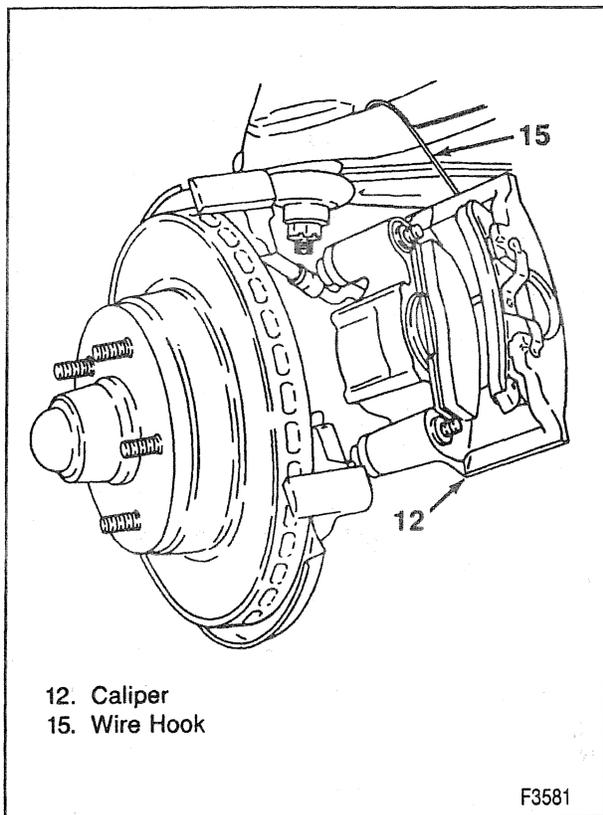

Figure 6—Suspending the Caliper
- Suspend the caliper with a wire hook (figure 6).